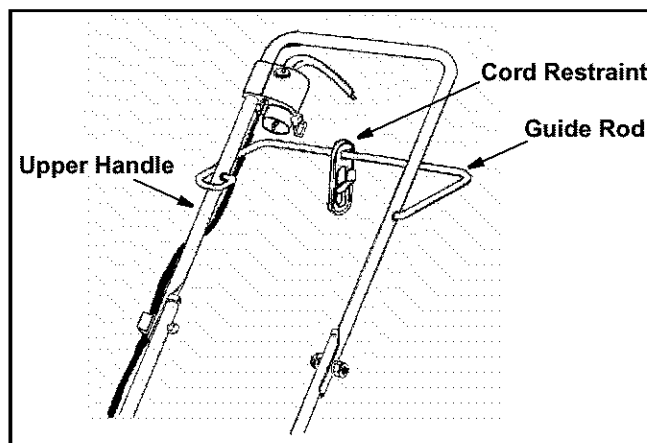

Figure 4
The guide rod and cord restraint need to be installed on the upper handle of the lawn mower. To install, see Figure 4 and continue:
- Slide the cord restraint onto the guide rod as shown in Figure 4.
- With the left part of the guide rod inserted in the upper handle, bring the other end of the guide rod around the outside of the upper handle on the right side, and insert the end into the hole on the inner portion of the upper handle. Refer to Figure 4 for proper mounting position.